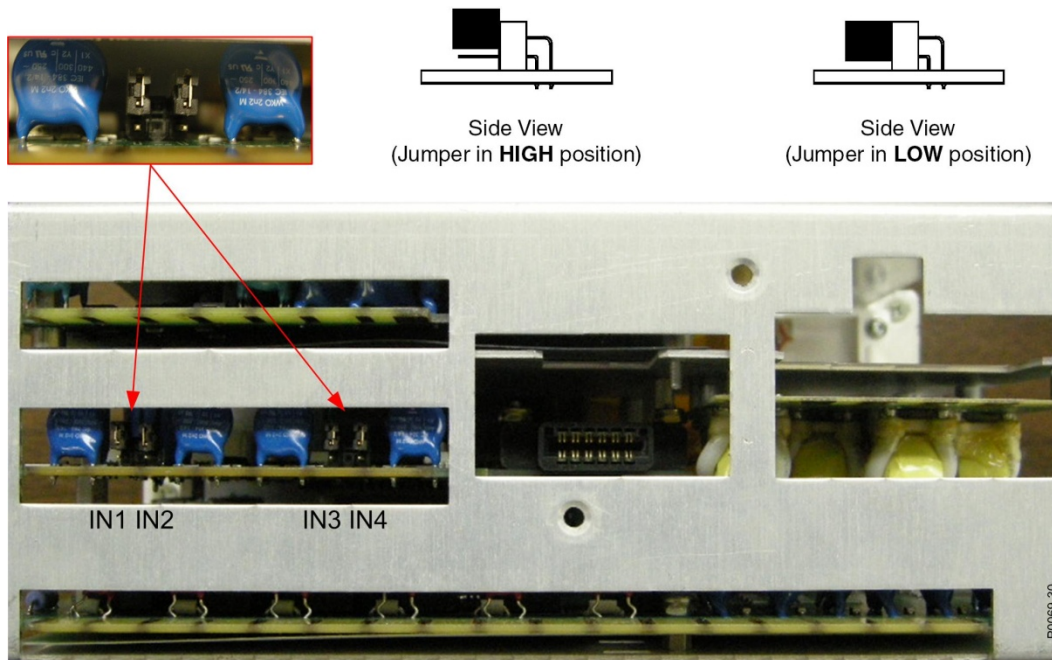

Figure 4-2. Contact-Sensing Jumper Locations (H or P Type Case)
3. Locate the two jumper terminal blocks that are mounted on the Digital Circuit Board. The Digital Circuit Board is the middle board in the assembly and the jumper terminal blocks are located on the component side of the circuit board. Each terminal block has two sets pins. With the jumper as installed at the factory, one pin should be visible when viewed from the side of the unit. This configuration allows the inputs to operate at the higher end of the control voltage range. Figure 4-2 illustrates the location of the contact-sensing jumpers. The jumpers are shown in the HIGH position.